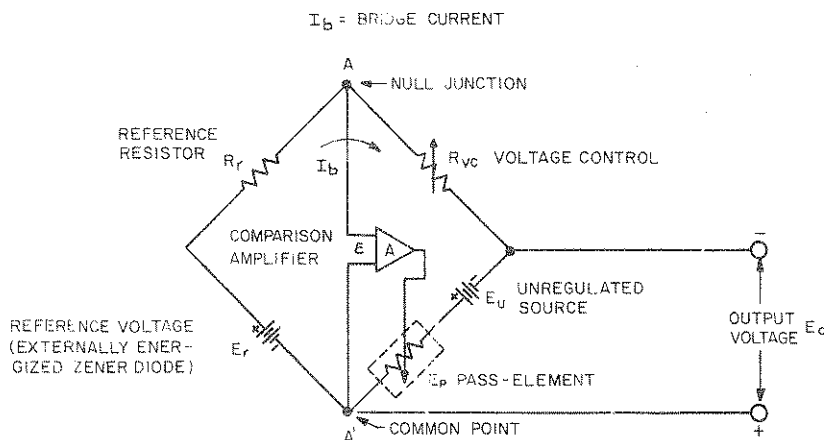

FIG. 3-3 KEPKO POWER SUPPLY CIRCUIT WITH COMPARISON BRIDGE (SIMPLIFIED)
- 3-9 GENERAL. A few general remarks may be in order to familiarize the user of this equipment with the terminology and basic equations pertaining to remote programming of Kepco Power Supplies. Electrically, the power supply, consists of the unregulated DC source ( $E_U$ ), the pass element ( $E_P$ ), the DC error amplifier (A) and a comparison circuit which resembles a four-arm electrical bridge. (Refer to FIG. 3-3). The elements of the bridge are arranged to produce a virtual zero at the amplifier input when the bridge circuit is at balance ( $V_{AA'} = 0$ ). Any tendency for the output voltage to change in relation to the reference voltage ( $E_R$ ) creates an error signal ( $e$ ) which, by means of negative feedback and the amplifier, tends to correct the output voltage towards restoration of bridge balance.